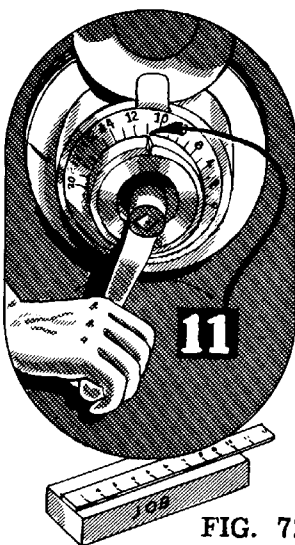

FIG. 72
1. Measure the length of the surface which is to be shaped (Fig. 72) and add one inch to this measurement in order that the ram stroke will permit the tool to travel beyond the back and front ends of the work.
2. Place the proper crank on the square end of the stroke-adjusting shaft (Fig. 72).